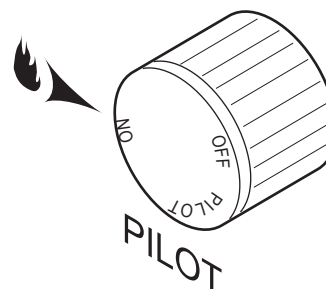

Figure 49 - On Position
Depress and turn the knob counterclockwise  to the “ON” position. *Figure 49*. It will take less than four (4) seconds for the burner to ignite.